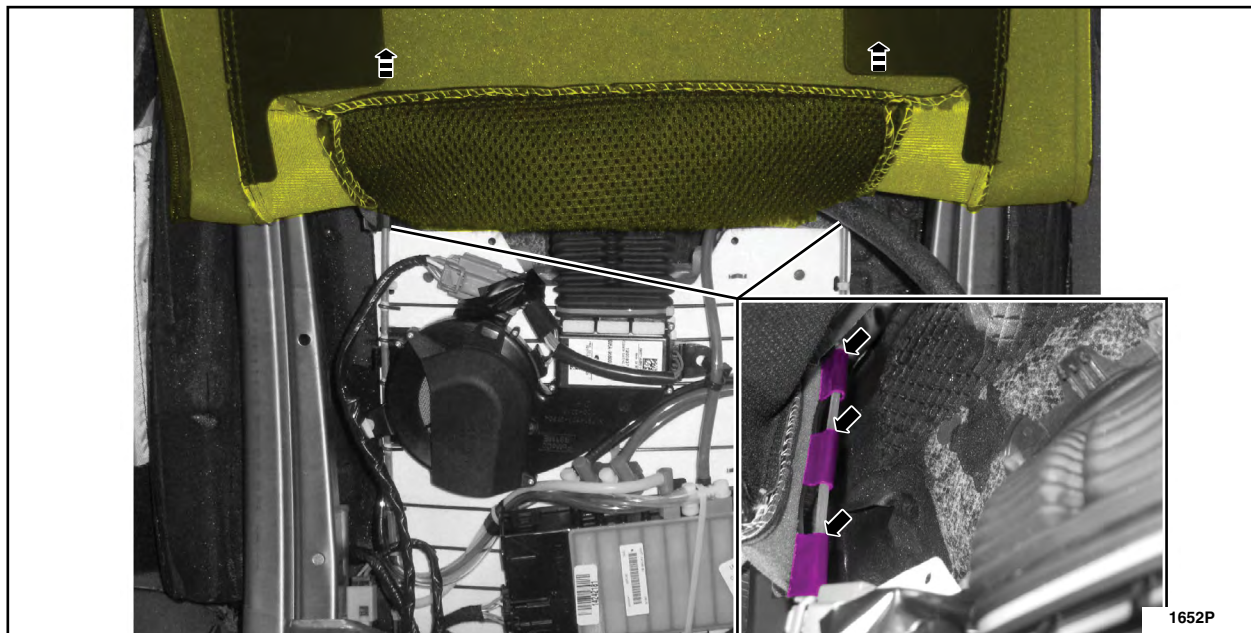

FIGURE 18
10. If equipped, detach the backrest cover J-clips from the lumbar support wire and position the backrest cover up. See Figure 18.